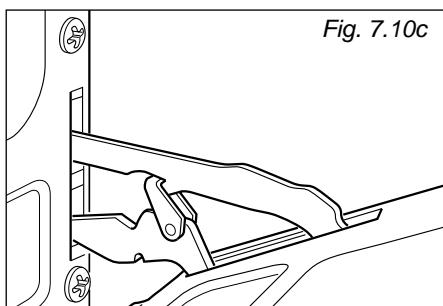

Fig. 7.10c
- Gently close the door and withdraw the lower hinge pins from their location (fig. 7.10C).